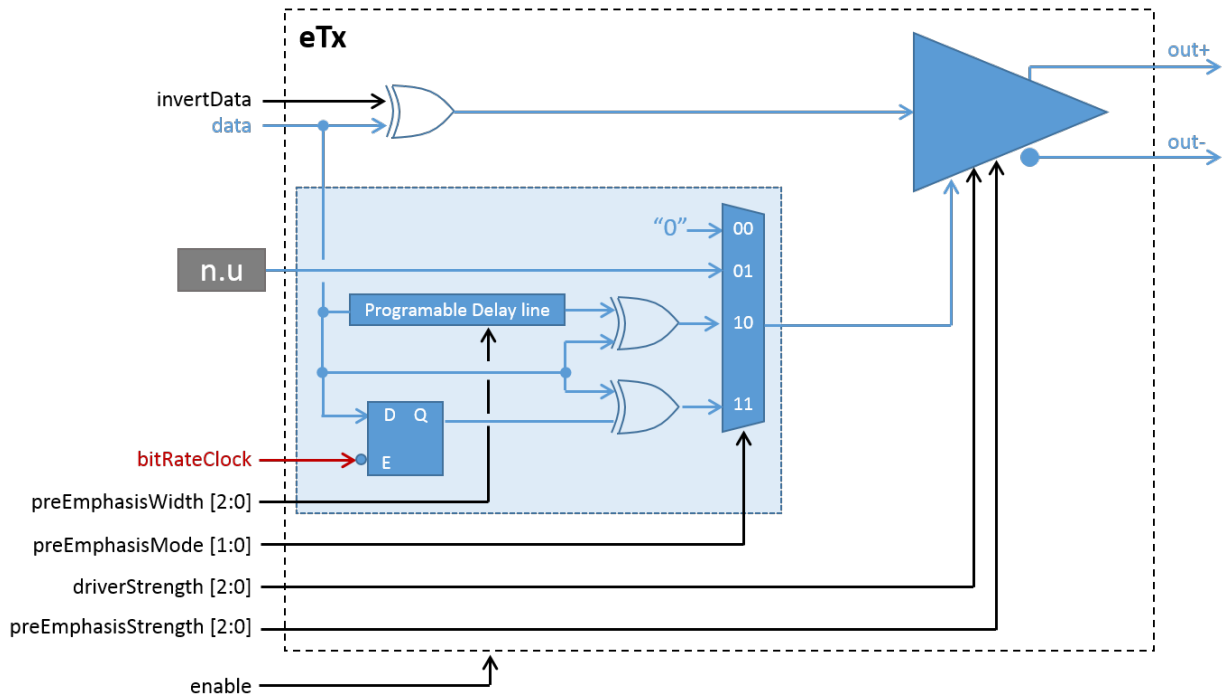

Fig. 7.5: eLink receiver
Fig. 7.5 illustrates the architecture of the IpGBT eLink driver. The same driver is used for the data outputs, up to 320 Mbps, and the clock outputs, up to 1.28 GHz. The driver has been designed to drive 100 Ohm loads with programmable strengths and controlled amounts of pre-emphasis. It has been designed to satisfy the CLPS standard previously described in this chapter. The driver offers many programmable features which include:
- *Enabling a clock driver:* In this case the signal "enable" in Fig. 7.5 becomes:  $\text{enable} = (\text{EPCLK}[G]\text{Freq}[2:0] \sim 2'b00)$ . That is, every time a clock output is set to work at any of the frequencies between 40 MHz and 1.28 GHz the corresponding driver is enabled. The clock frequency is controlled by bits 2:0 of registers [\[0x06e\] EPCLK0ChnCntrH](#) (page 161) to [\[0x0a6\] EPCLK28ChnCntrH](#) (page 201);
- *Enabling a data driver:* In this case it is possible that even if a given group is active that a specific channel within that group will not be used. Consequently it is necessary to explicitly enable the channels in use. Here, the signal "enable" in Fig. 7.5 becomes:  $\text{enable} = \text{EPTX}[G][C]\text{Enable}$ . These signals are controlled by registers [\[0x0aa\] EPTX10Enable](#) (page 203) and [\[0x0ab\] EPTX32Enable](#) (page 203); Notice that, if the mirror function is not enabled, for a given data rate only the channels indicated in table ePortTx \(downlink\) data rates (page 56) can be enabled. If the mirror function is enabled for a given group it is possible to enable all the channels in that group. The mirror function is controlled on a group basis by signals  $\text{EPTX}[G]\text{MirrorEnable}$  in register [\[0x0a9\] EPTXControl](#) (page 203) (Bits 3:0).
- *Clock driver strength:* For clock drivers the driving strength is set by the signal "driverStrength[2:0]" in Fig. 7.5 with  $\text{driverStrength}[2:0] = \text{EPCLK}[C]\text{DriveStrength}[2:0]$ . These signals are controlled by bits 5:3 of registers [\[0x06e\] EPCLK0ChnCntrH](#) (page 161) to [\[0x0a6\] EPCLK28ChnCntrH](#) (page 201);
- *Data driver strength*: For data drivers the driving strength is set by the signal "driverStrength[2:0]" in Fig. 7.5 with driverStrength[2:0] = EPTX[G][0]DriveStrength[2:0]. These signals are controlled by bits 2:0 of registers [0x0ae] EPTX00ChnCntr (page 205) to [0x0bd] EPTX33ChnCntr (page 216). For the EC channel driverStrength[2:0] = EPTXEcDriveStrength[2:0], these signals are controlled by bits 2:0 of registers [0x0ac] EPTXEcChnCntr (page 204);
- *Clock driver pre-emphasis strength*: For clock drivers the driving strength is set by the signal "preEmphasisStrength[2:0]" in Fig. 7.5 with preEmphasisStrength[2:0] = EPCLK[C]PreEmphasisStrength[2:0]. These signals are controlled by bits 7:5 of registers [0x06f] EPCLK0ChnCntrL (page 162) to [0x0a7] EPCLK28ChnCntrL (page 201).
- *Clock driver pre-emphasis timing*: The pre-emphasis pulse width is controlled by two parameters (Fig. 7.5) the timing **Mode** and the **Pulse Length**. The "Mode" allows to select between no pre-emphasis, pre-emphasis with "clock timed" pulse duration (1/4 of the clock period) or "self timed" where the pulse width can be programmed from 120 ps up to 960 ps. Notice that the "clock timed" mode is not valid if the clock output is set to 1.28 GHz and that in the "self timed" mode the pulse width should never be programmed to exceed 1/2 clock period. The pre-emphasis mode is selected by the signals preEmphasisMode[1:0] = EPCLK[C]PreEmphasisMode[2:0] that are controlled by bits 4:3 of registers [0x06f] EPCLK0ChnCntrL (page 162) to [0x0a7] EPCLK28ChnCntrL (page 201). When in the "self timed" mode, the signals preEmphasisWidth[2:0] = EPCLK[C]PreEmphasisWidth[2:0] set the pulse width and are controlled by bits 2:0 of registers [0x06f] EPCLK0ChnCntrL (page 162) to [0x0a7] EPCLK28ChnCntrL (page 201).
- *Data driver pre-emphasis strength*: For data drivers the driving strength is set by the signal "preEmphasisStrength[2:0]" in Fig. 7.5 with preEmphasisStrength[2:0] = EPTX[G][C]PreEmphasisStrength[2:0]. These signals are controlled by bits 7:5 of registers [0x0ae] EPTX00ChnCntr (page 205) to [0x0bd] EPTX33ChnCntr (page 216). For the EC channel preEmphasisStrength[2:0] = EPTXEcDriveStrength[2:0], these signals are controlled by bits 7:5 of registers [0x0ac] EPTXEcChnCntr (page 204);
- *Data driver pre-emphasis timing*: The pre-emphasis pulse width is controlled by two parameters (Fig. 7.5) the timing **Mode** and the **Pulse Length**. The "Mode" allows to select between no pre-emphasis, pre-emphasis with "clock timed" pulse duration (1/2 of the clock period) or "self timed" where the pulse width can be programmed from 120 ps up to 960 ps. Notice in the "self timed" mode the pulse width should never be programmed to exceed the bit period. The pre-emphasis mode is selected by the signals preEmphasisMode[1:0] = EPTX[G][C]PreEmphasisMode[1:0] that are controlled by bits 4:3 of registers [0x0ae] EPTX00ChnCntr (page 205) to [0x0bd] EPTX33ChnCntr (page 216). When in the "self timed" mode, the signals preEmphasisWidth[2:0] = EPTX[G][C]PreEmphasisWidth[2:0] set the pulse width and are controlled by bits 6:4 and 2:0 of registers [0x0be] EPTX01\_00ChnCntr (page 217) to [0x0c5] EPTX33\_32ChnCntr (page 221). For the EC channel the pre-emphasis mode is selected by the signals preEmphasisMode[1:0] = EPTXEcPreEmphasisMode[1:0] that are controlled by bits 4:3 of register [0x0ac] EPTXEcChnCntr (page 204). When in the "self timed" mode, the signals preEmphasisWidth[2:0] = EPTXEcPreEmphasisWidth[2:1] set the pulse width and are controlled by bits 6:4 of register [0x0a9] EPTXControl (page 203).